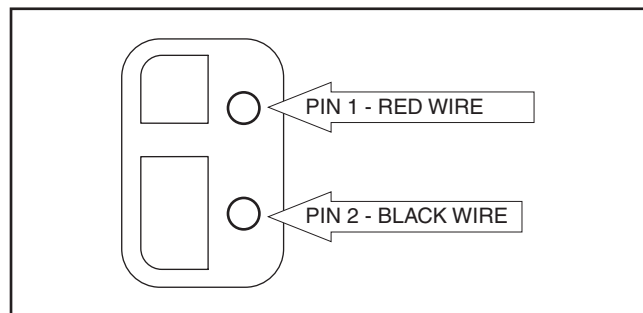

Figure 7-14. – Harness to Fuel Pump
4. This step will test the ground wire. Disconnect Connector 2 at the Fuel Pump. Set the VOM to measure resistance. Connect one test lead to the Black wire, (Pin 2 of Connector 2) that goes to the Control Panel (see Figure 7-14). Connect the other test lead to a clean frame ground. "Continuity" should be measured.
5. To test for an open fuel pump coil, connect one test lead to the Red Wire (Pin 1 of Connector 2) going to the fuel pump. Connect the other test lead to the Black Wire (Pin 2 of Connector 2) going to the Fuel Pump (see Figure 7-14). The VOM should indicate Fuel Pump coil resistance of about 29.5 kW. (Current draw of the pump at nominal voltage is approximately 1.4 amperes MAXIMUM).
6. To test for a shorted fuel pump coil, connect one test lead to the Red Wire (Pin 2 of Connector 2, see Figure 7-14). Connect the other test lead to the fuel pump housing. "Infinity" should be measured.